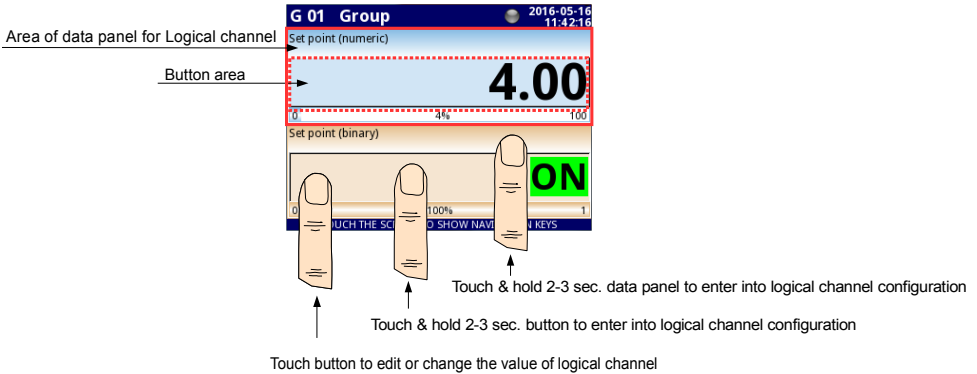

Fig. 7.55. Data panels for Logical channel in **Set point value mode**
- **Edit button** - this parameter allows you to activate the button in the panel data (see **Fig. 7.55**), this parameter has two options: